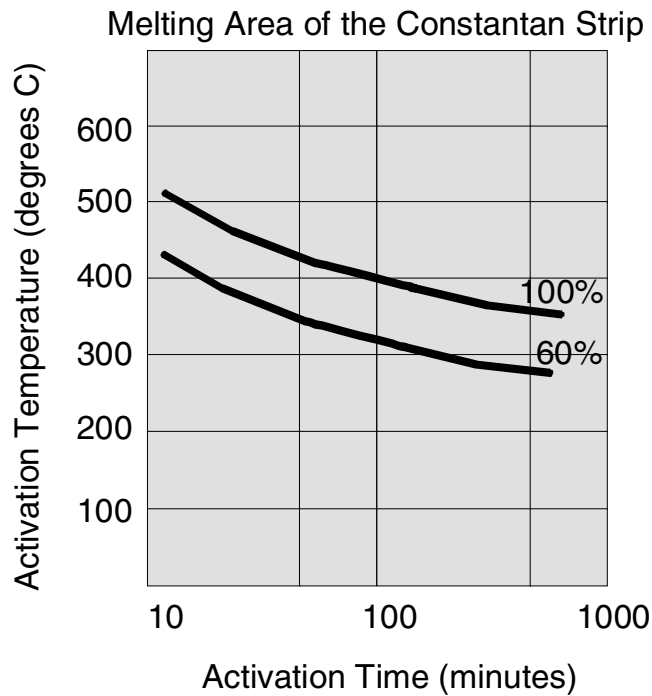

Figure 3-1. Activation Curves for NEG Modules.
2. PHI recommends activating for 45 to 60 minutes at 450° C for most UHV applications. In order to obtain the same final efficiency, a shorter activation time must be compensated with a higher temperature. See Figure 3-1.